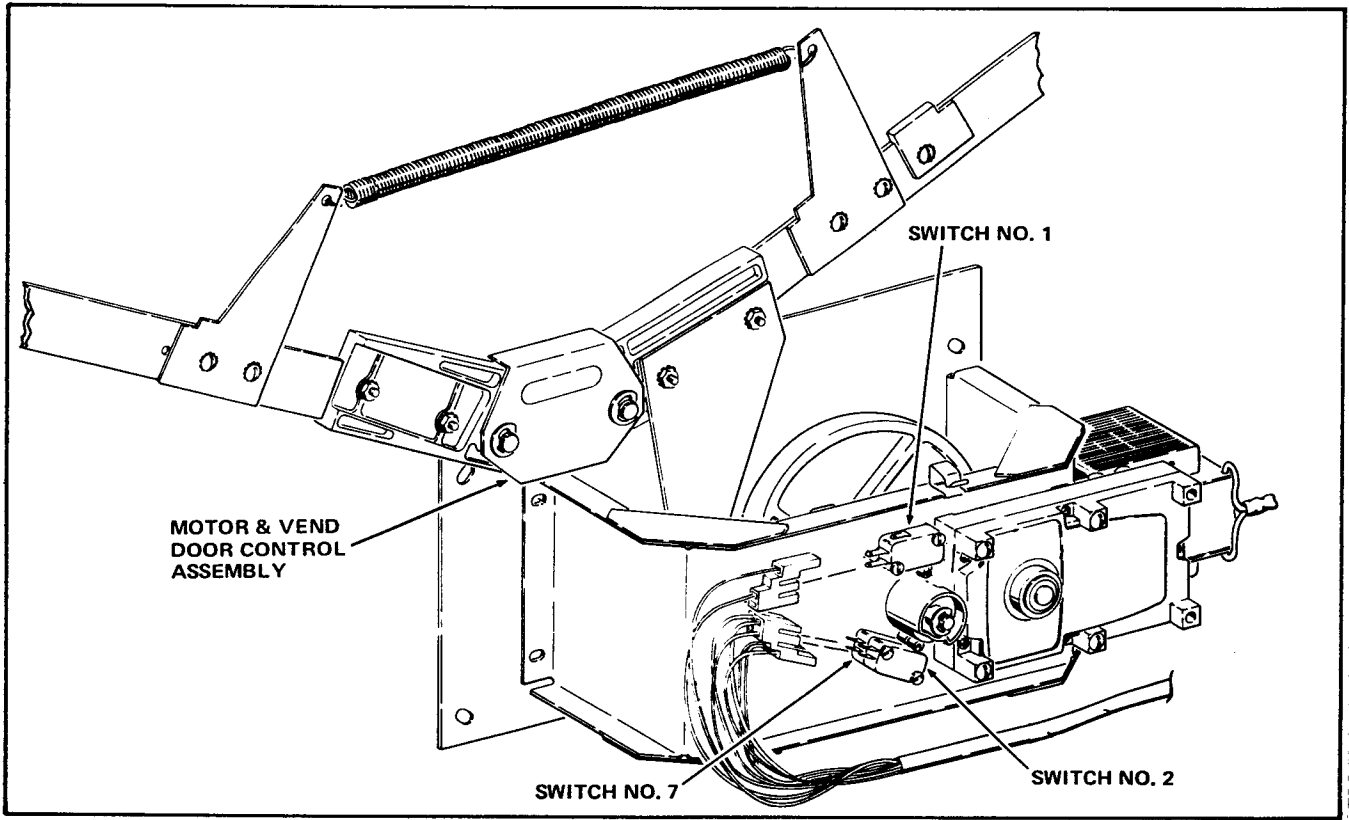

FIGURE 6
7. Connect the Delivery Door Harness to the three Delivery Door Switches and the Motor on the Motor and Vend Door Control Assembly. The Delivery Door Switches are numbered in Figure 6.
6. Connect the Delivery Door Harness to the three Delivery Door Switches and the Motor on the Motor and Vend Door Control Assembly. The Delivery Door Switches are numbered in Figure 6. Match the correct Switch Receptacles to the correct Delivery Door Switches by wire color as follows: